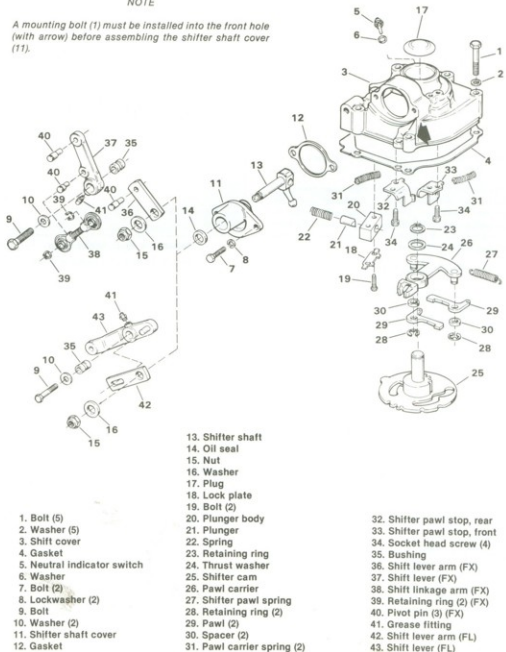

Figure 7-16. Shifter Cover — Late 1979 and Later
- See Figure 7-16. Remove the retaining ring (23) and washer (24) located under the plug and remove the shifter cam (25) and pawl assembly (26 through 30).
Install the assembly into the shifter cover. Place the tab on the pawl carrier between the two springs. Secure it with the washer and retaining ring (23, 24, Figure 7-16).